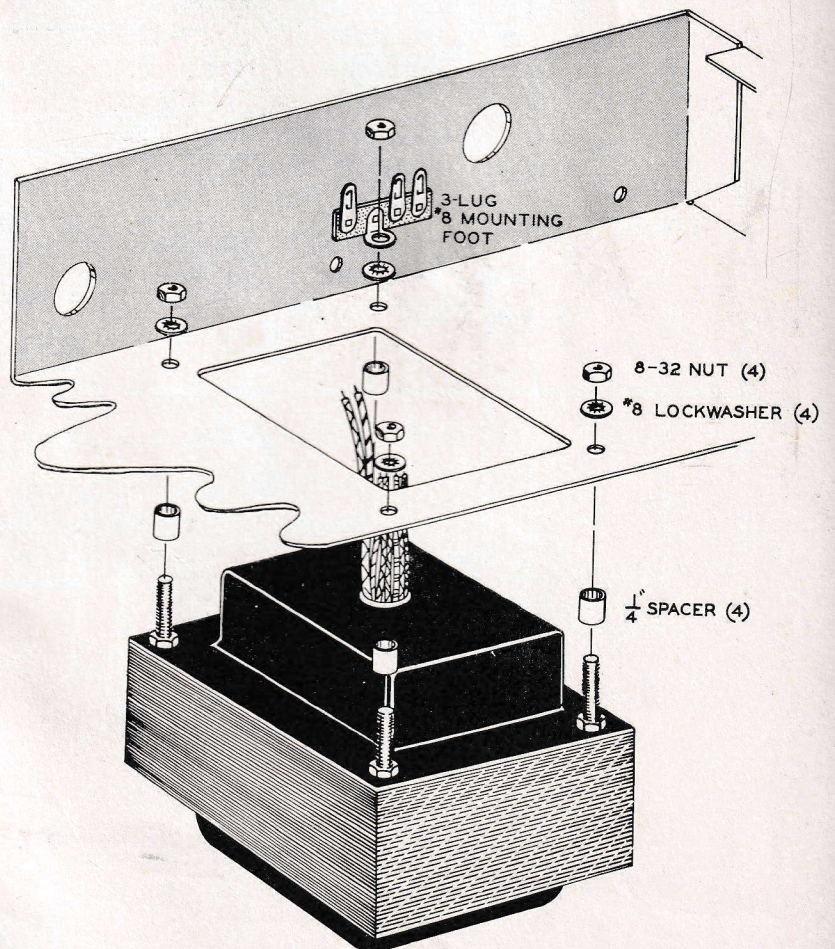

Figure 3
- (✓) T1. Slip a 1/4" spacer onto each 8-32 stud and seat the transformer into its mounting position. See Figure 3. Secure the transformer on the chassis bottom side with a #8 lockwasher and an 8-32 nut on each of the three studs, as shown. Mount a 3-lug terminal strip at QQ (has an 8-32 mounting foot) on the transformer stud. Use a #8 lockwasher first, then the mounting foot, and the 8-32 nut last.